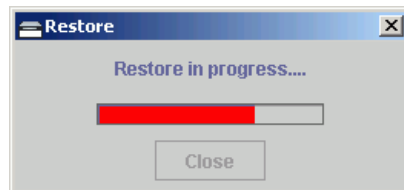

Figure 4-73 Information Dialog Box
7. Click *Yes*. A *Restore* dialog box displays, indicating the restore operation is in progress (Figure 4-73).